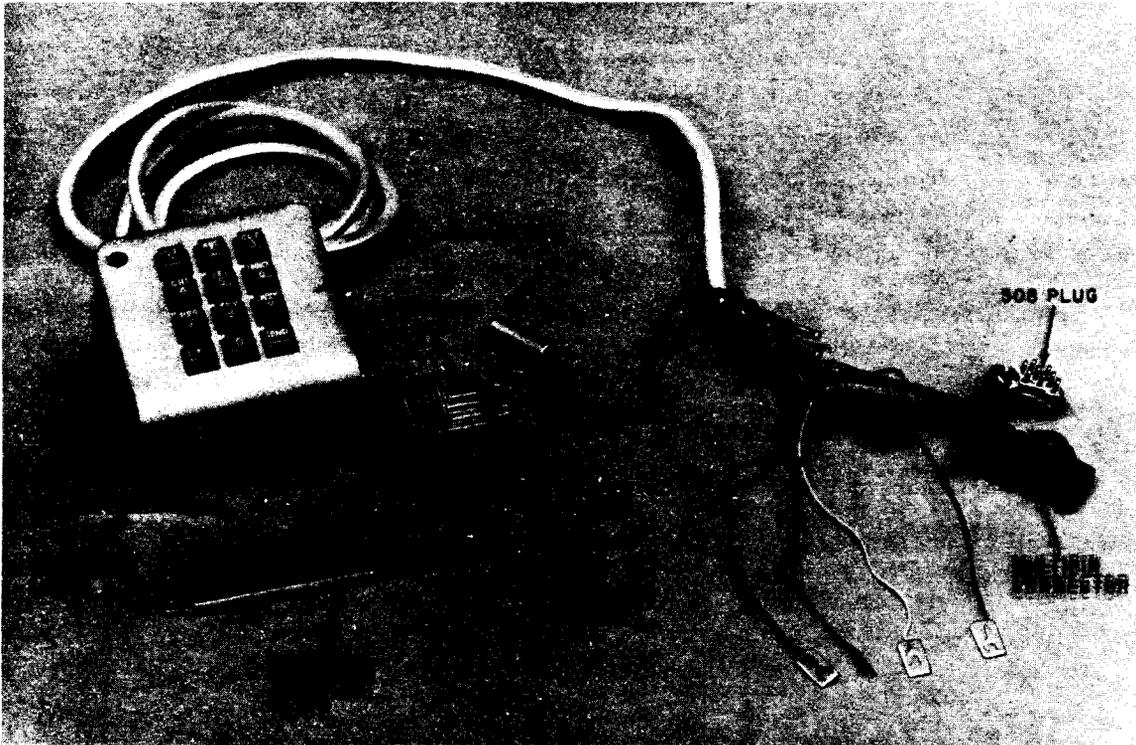

Fig. 6—D-180687 Kit of Parts
3.20 If the auxiliary manual entry pad is to be used, it should be installed at this time. Install the D-180687 Kit of Parts (Fig. 6), which includes: